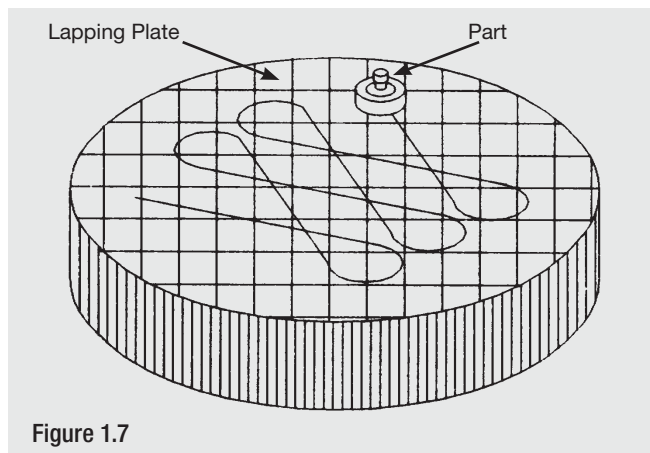

Figure 1.7
2. Select the appropriate lapping compound. When lapping the disc, operate with a light figure eight motion over entire block surface for complete contact. See Figure 1.7. With this motion, the complete surface of the part will be evenly lapped and you will avoid wearing a groove in the block.